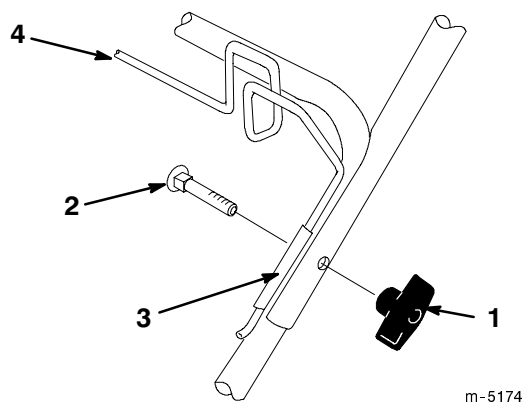

Figure 43
1. Remove the knob and bolt that secure the left side of the upper and lower handle sections (Fig. 43).
2. Hold a hanger clamp on the inside of one of the handle sides, and insert a bolt from the inside of the handle sections through the holes in the hanger clamp (Fig. 43).
- B. Loosen the knobs, slide the hanger up or down in the clamps, and tighten the knobs (Fig. 43); if you need to adjust the bag more, go to Step C.
- C. Remove the bolts and knobs that secure the hanger clamps to the handle sections (Fig. 43).